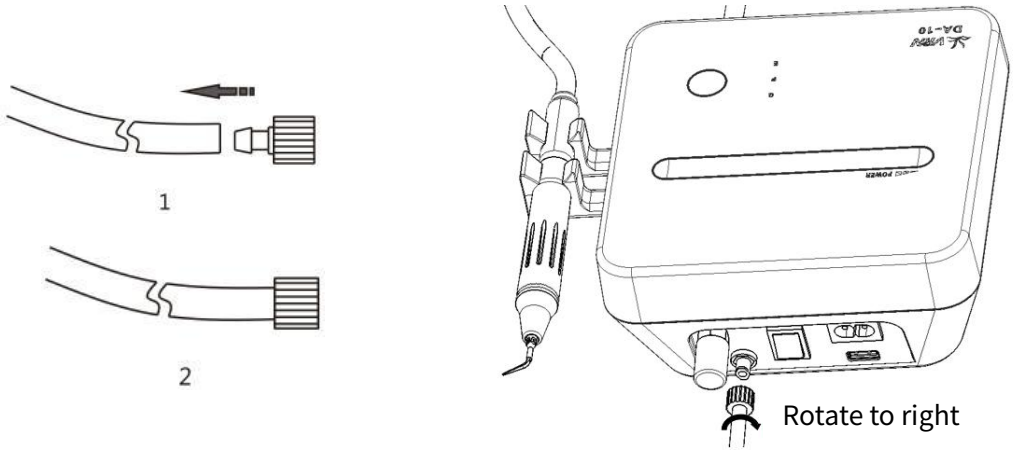

Figure 2.5
- 4) Connect the connector of liquid pipeline to the device, and input pure water to it(See Figure 2.5).